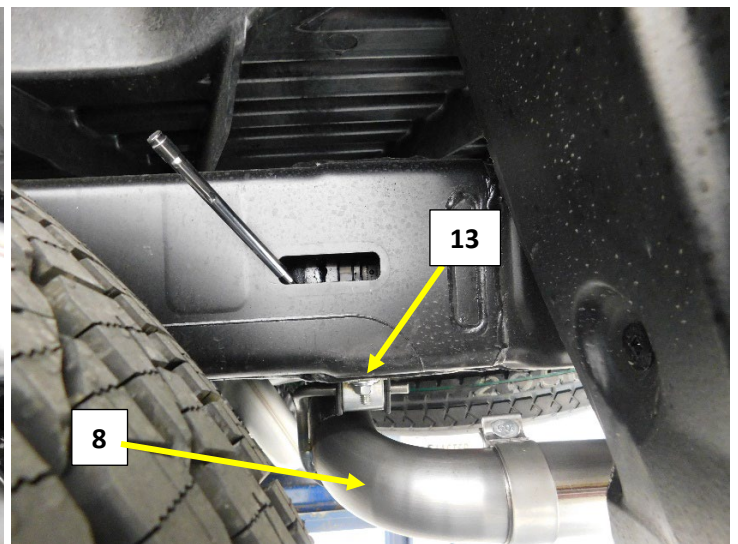

Figure.15
12. Install a supplied tail pipe frame hanger (**13**) on to the left tail pipe (**8**) hanger rod. Rotate the tail pipe up and position the frame hanger on to the bolt installed into the frame rail and install a flat washer, lock washer and nut. Use the magnet or screwdriver in place to help hold the bolt as the washers and nut are installed. **Fig.15**